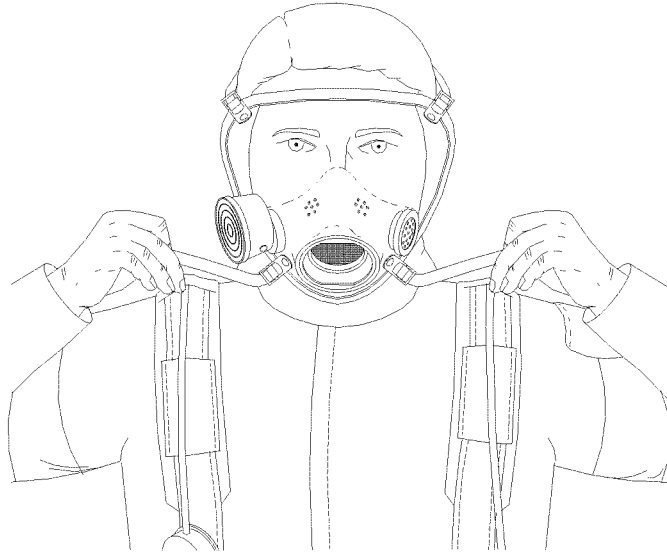

Figure 077-3-27. Tightening Neck Straps
10. Simultaneously pull back on ends of neck straps to tighten for a comfortable fit as shown in Figure 077-3-27.